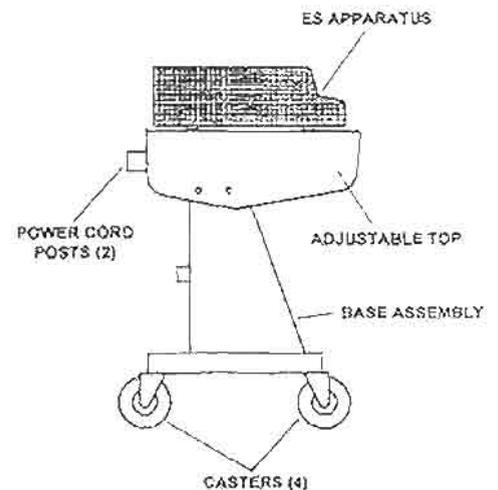

Figure 1-2. Mobile cart.
a. *Mobile cart (fig 1-2).* The mobile cart consists of a base assembly with shelves, four casters, and an adjustable position top for mounting the ES apparatus.